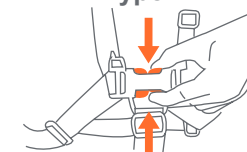

Fig. 14
- 14) • To release, apply pressure to both sides of each male clip until the clip is released (Fig. 14).